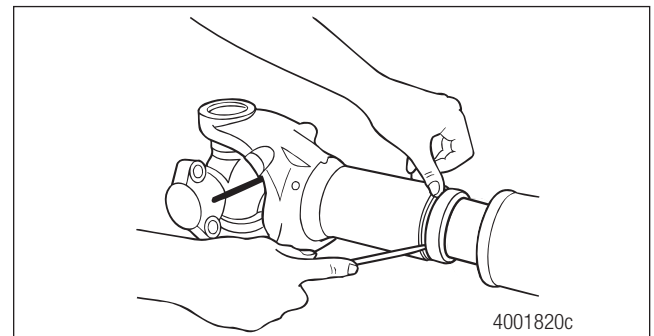

Figure 5.36
2. Use a screwdriver to pry the seal out of the groove in the slip yoke. Figure 5.36.